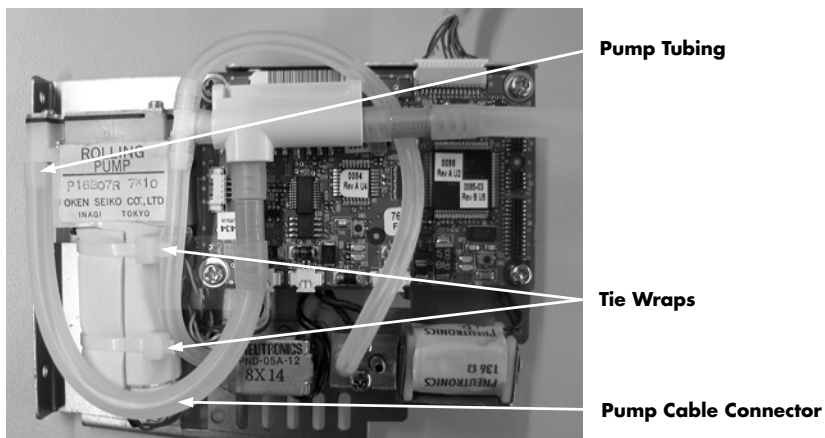

FIGURE 4-33 Cut two (2) tie wraps.
3. Cut the two tie wraps holding the NIBP pump as shown in FIGURE 4-33.